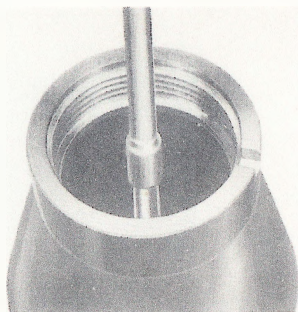

Fig. 28. Removing firing pin, using combination tool.
b. Firing pin. To remove firing pin, use appropriate socket wrench portion of combination tool, place over hexagonal section of firing pin, and unscrew firing pin (fig. 28). To replace, reverse procedure for removal and make certain the powder support is in place.